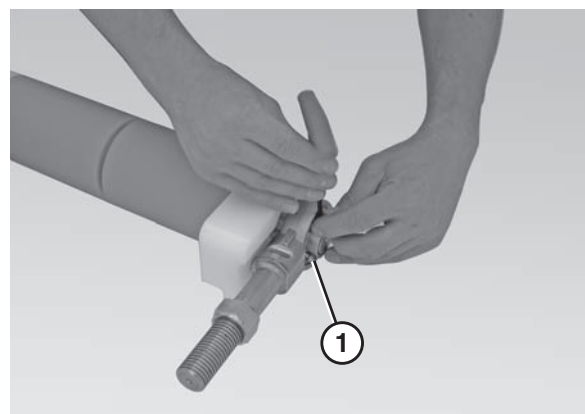

Figure 67
- Use a 4 mm hex wrench to loosen the bearing shaft assembly fasteners (**Figure 67, item 1**).